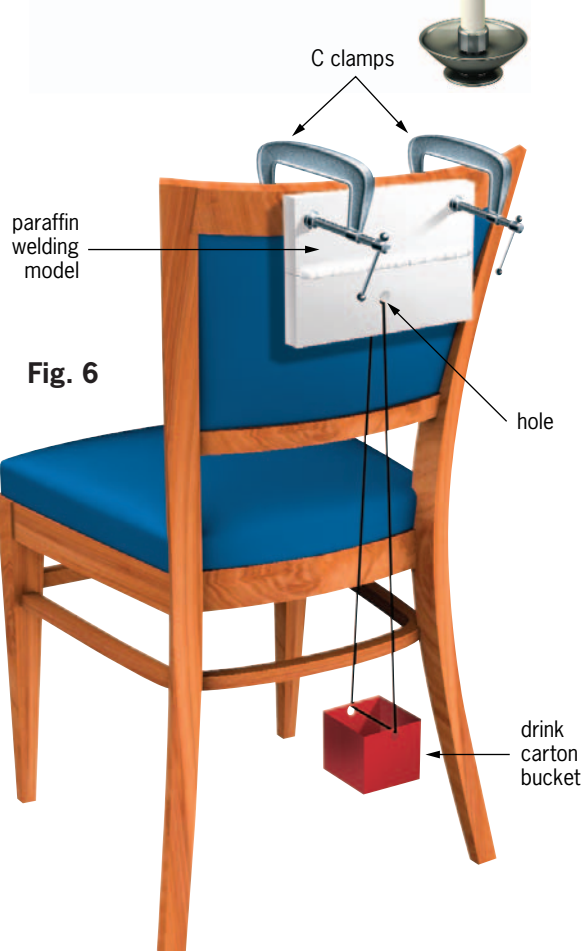

Fig. 6
2. Light the candle. Use tongs to heat the nail as shown in Fig. 6. Still using the tongs to hold the nail, force the hot nail to make a hole in the blocks at the X's.